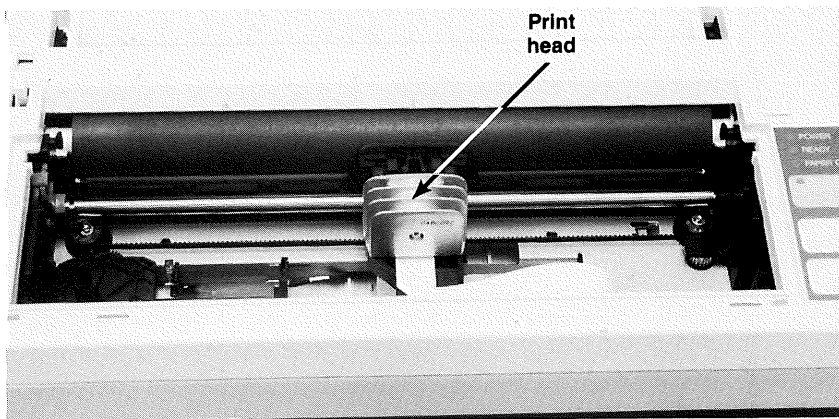

Figure 16.
25. If the printer has been in use, wait a few minutes to allow the print head to cool. Move the print head to the center of the printer. See Figure 16.